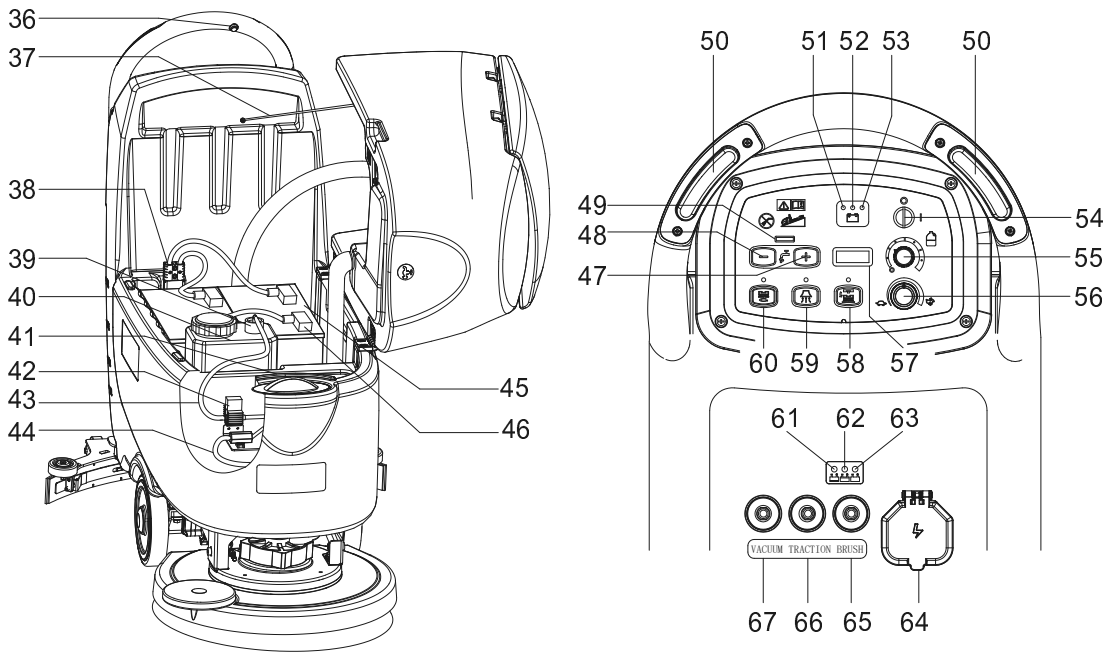

**Figure 1**
**MACHINE STRUCTURE (as shown in Figure 1)**